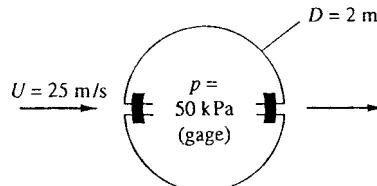

Fig. P8.46
**8.46** A cylinder is formed by bolting two semicylindrical channels together on the inside, as shown in Fig. P8.46. There are 10 bolts per meter of width on each side, and the inside pressure is 50 kPa (gage). Using potential theory for the outside pressure, compute the tension force in each bolt if the fluid outside is sea-level air.